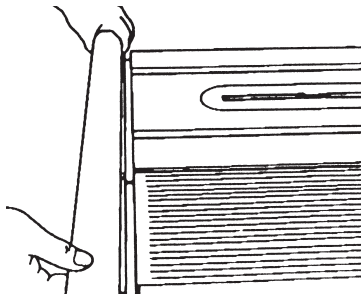
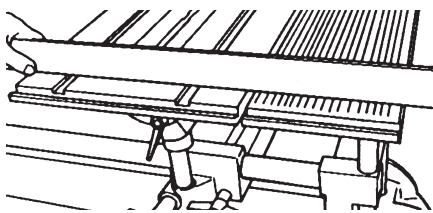
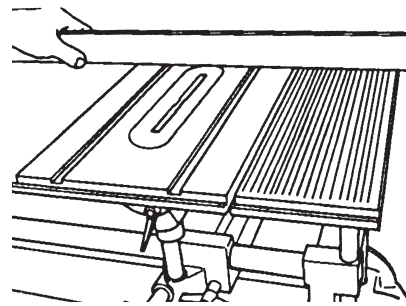

Figure 90
Figure 91
Figure 93
4. Hold a Straightedge against the infeed edge of both the Worktable and Extension Table, as in Figure 90.
6. Hold a Straightedge on the infeed top surface of both the Worktable and the Extension Table, as shown in Figure 91.
8. Hold a Straightedge on the outfeed top surface of both the Worktable and the Extension Table, as shown in Figure 93. As needed, adjust the Top Nuts located on the outfeed side of the Extension Table, in order for the Straightedge to be level across both the Worktable and the Extension Table outfeed sides.
10. When the Tables are aligned on three sides - infeed side edge (along the Table Bars, as in Figure 90), infeed top surface (as in Figure 91), and outfeed top surface (as in Figure 93) - securely tighten the Bottom Nut on each of the four Studs.